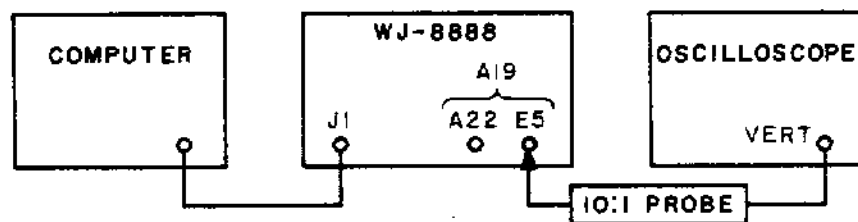
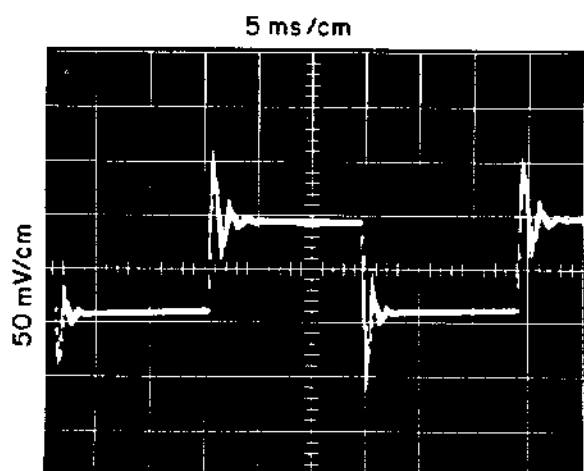

Figure 5-36. Test Setup, 2nd LO Alignment
Figure 5-39. Typical Response, 2nd LO Step Voltage
(1) Connect the equipment as shown in Figure 5-36. Set the RCVR CONTROL to the REMOTE mode. Program the computer to step back and forth between 00.503 00 MHz and 00.506 99 MHz at a 30 mS rate.
(2) Measure the voltage at pin A22 of circuit board A19. The voltage should be about +5.3 V dc and stable.
(7) Tune the receiver to 00.500 00 MHz; the frequency counter should indicate 109.990 kHz and be stable.
(8) Tune the receiver to 00.509 99 MHz; the frequency counter should indicate 100.010 kHz and be stable.
(9) If the frequency readout in step (7) and step (8) is not stable, adjust A19C29, A19R56 and the turns spacing of A19 L16 to obtain a stable readout. (If a new coil has been installed, the number of turns may have to be changed.)
(10) Refer to Table 5-5 on page 5-17. Tune the receiver to each of the frequencies listed and verify a corresponding VCO readout on the frequency counter.
(11) Connect the equipment as shown in Figure 5-36. Set the rear panel CLOCK switch to INT.
(12) Program the computer to step back and forth from 00.503 00 MHz to 00.506 99 MHz at a 30 mS rate.
(13) Put the RCVR CONTROL in the REMOTE mode.
(14) Adjust A19R52, A19R54, and A19R55 to obtain a response like that shown in Figure 5-39. The setting time for each excursion should be less than 5 ms. Also, the response should be centered between +5 volts and ground.